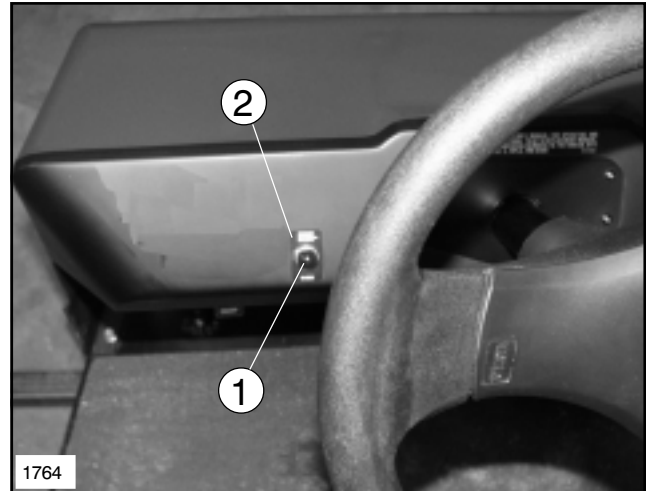

FIG. 15
6. Remove Hole Plug and install Sonic Boom™ Decal and Indicator Light on Dash, and connect Harness Leads to Light. See FIG. 15.